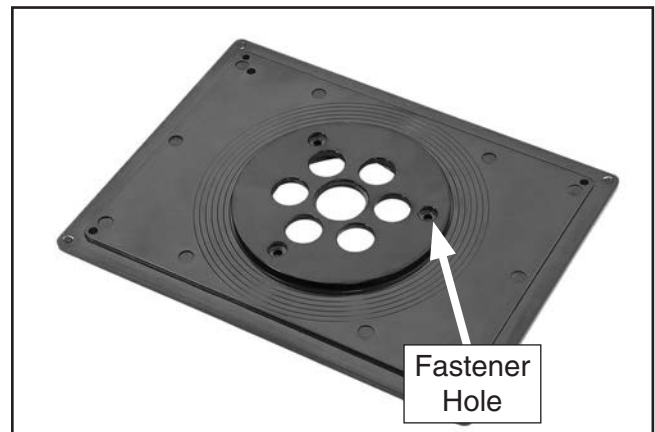

Figure 11. Example of using the router base as a template to drill mounting holes.
8. Use the mounting holes in the router base as a template to mark the holes for drilling the holes in the mounting board (see **Figure 11** for an example).